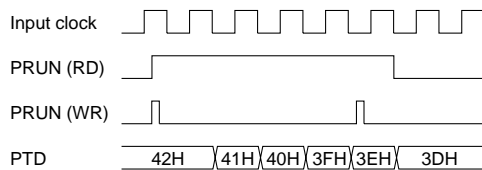

Fig. 6.2.3 Timing chart at RUN/STOP control
- (1) The 8-bit programmable timer actually enters into RUN or STOP status at the falling edge of the input clock after writing to the PRUN register. Consequently, when "0" is written to PRUN, the timer stops after counting once more (+1). PRUN is read as "1" until the timer actually stops. Figure 6.2.3 shows the timing chart of the RUN/STOP control.